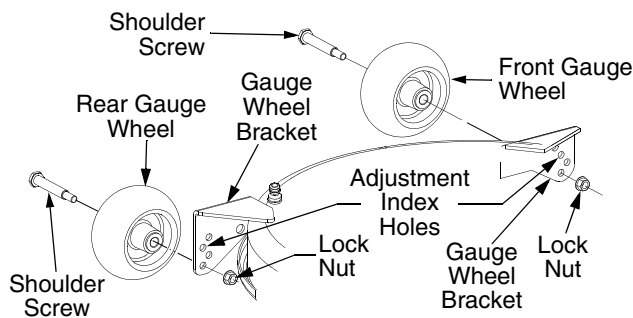

Figure 32
- Remove the lock nut securing one of the gauge wheel shoulder screws to the deck. Remove the gauge wheel and shoulder screw. See Figure 32.